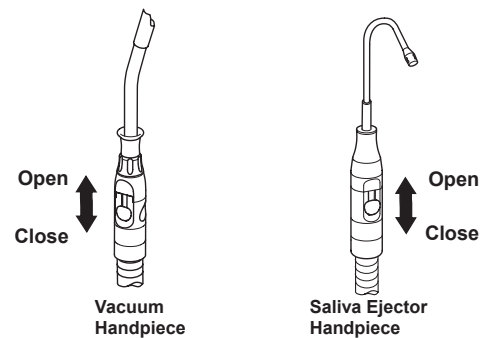

Fig.3-21 Vacuum Handpiece and Saliva Ejector Handpiece
(4) Assistant Instrument Holder (Fig.3-21)